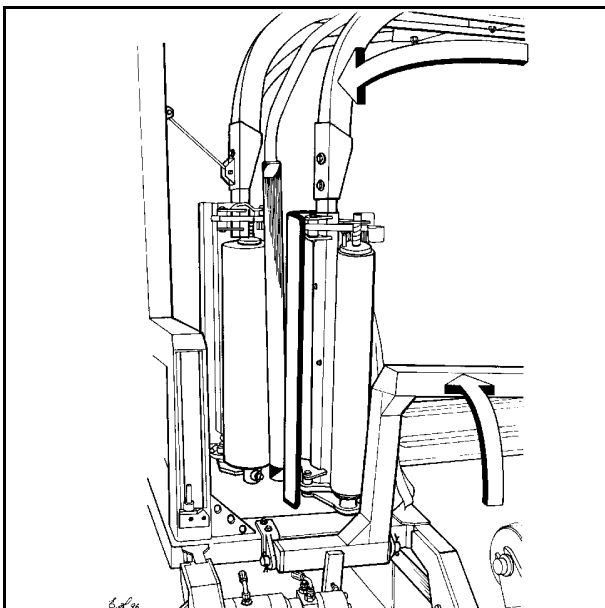
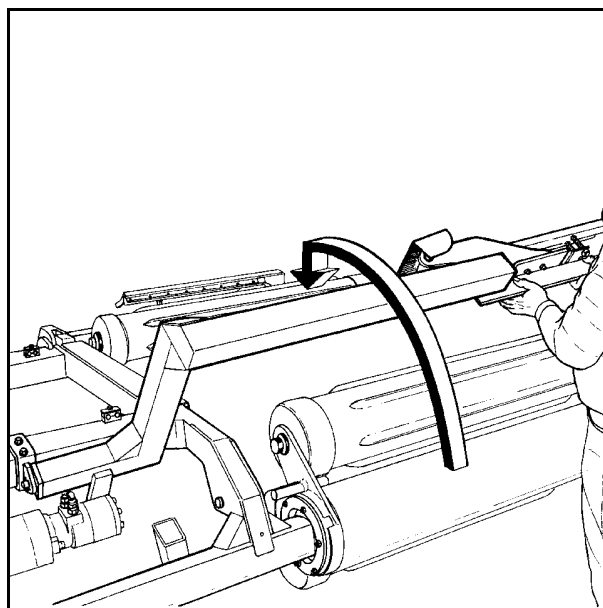

Fig. 2-9
Fig. 2-10
4. To reduce the transport width of the TWIN machines, at the same time preventing the secondary arm from accidentally swinging out to the side during transportation (see fig. 2.9), each cutting beam is put in the transport position by holding the beam by the edge and lifting it upwards and inwards by hand. Using a special grooved slot at the back end of the mounting point, the cutting beam locks automatically in the raised transport position when the beam is dropped to its lower position once more at the back. (See fig. 2.10.) (See also sections 3 to 8 for the standard machines)